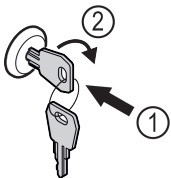

Fig. 46 Example illustration
- ▶ Insert key Fig. 46 (1).
- ▶ Turn key clockwise by 90° Fig. 46 (2).